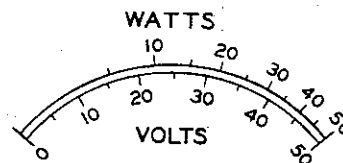

Fig. 2-2. Comparison—Illustrative Watt and Volt Scales
(2) When the voltmeter is a linear type, the watt scale will be as shown in Fig. 2-2. This compares equivalent voltage and power scales for a hypothetical 50 ohm, 50 watt, 50 volt instrument. Half full-scale deflection is obtained at one-fourth full-scale power, and this scale, expanded at low readings is convenient in getting better readability at low scale readings. The voltmeter used in the RF Wattmeter Model 61 is approximately linear and scales are of the type shown in Fig. 2-2.